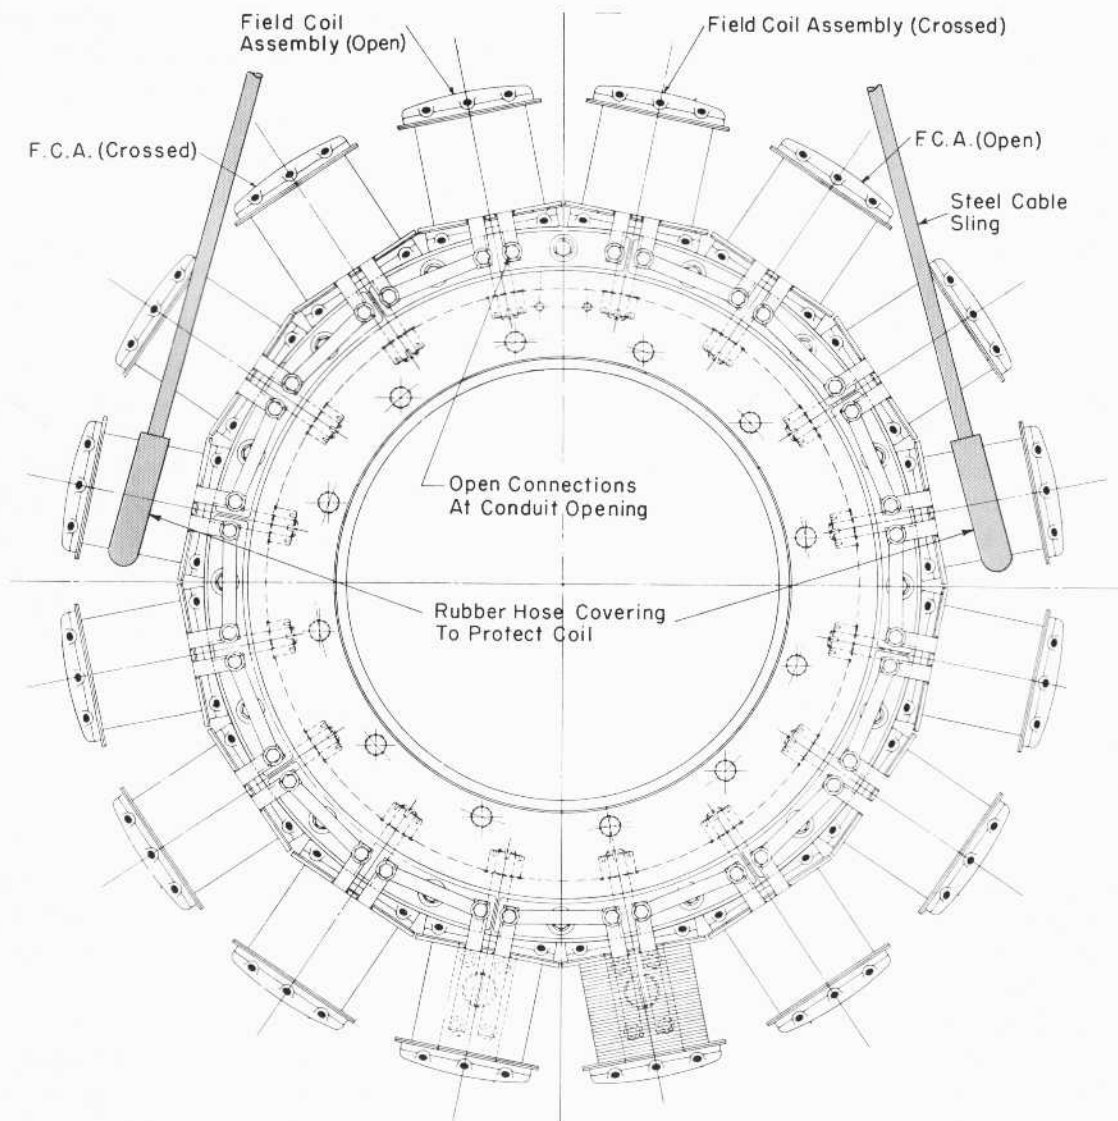

Fig. 7 - Alternator Rotor Assembly
3. Support rotor using a sling as shown in Fig. 7.
1. Those having the coil terminals bolted to a connector block (new style), shown on Fig. 7.
All D16 rotors are of the new style with a connector block as shown in Fig. 7.